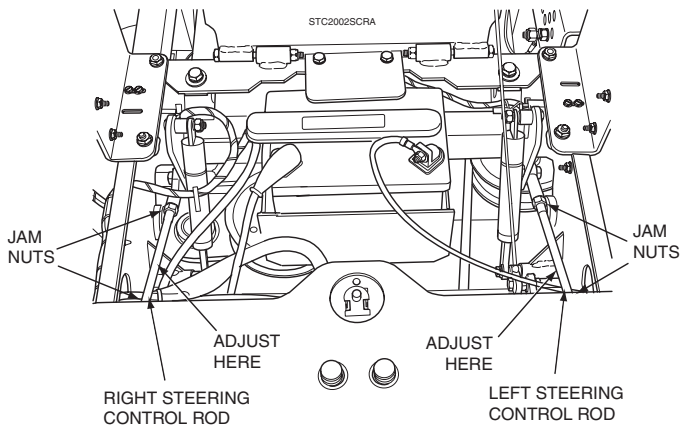

Figure 6-3. Steering Control Rod Adjustment
4. Adjust the RH wheel by loosening the jam nuts on the steering control rod and turning the rod until the drive wheel turns in the forward direction. Turn the rod back until the drive wheel stops moving. Turn the rod an additional 1/2 turn. See Figure 6-3.
5. Tighten the jam nuts and repeat for the LH wheel. See Figure 6-3.
A. Stop the machine and place the steering control levers in the neutral position. Loosen the lock nuts securing the ball joints at each end of the LH steering control rod. Rotate the control rod to lengthen the rod and tighten the lock nuts. This will cause the control rod to stroke the LH pump less, slowing down the LH wheel. See Figure 6-3.
A. Stop the machine and place the steering control levers in the neutral position. Loosen the lock nuts securing the ball joints at each end of the RH steering control rod. Rotate the control rod to lengthen the rod and tighten the lock nuts. This will cause the control rod to stroke the RH pump less, slowing down the RH wheel. See Figure 6-3.